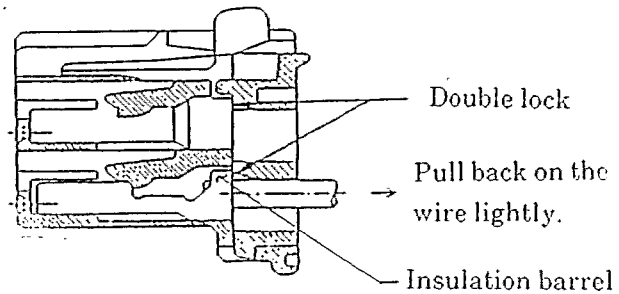

Fig. 4 When double lock is completed
- (1) A double lock ratchet is used to reinforce contact support. The insulation barrel is supported at the retainer type double lock area. See Fig. 4.
- (3) Verify that the double lock is firmly locked. When completing and verifying steps (1) and (2) above, press the retainer press area. The retainer moves downward and the ratchet clicks to be released. Make sure it is locked by lightly pulling the wire outward. The conditions shown in Figs. 4 and 5 will be seen if the retainer behaves correctly.